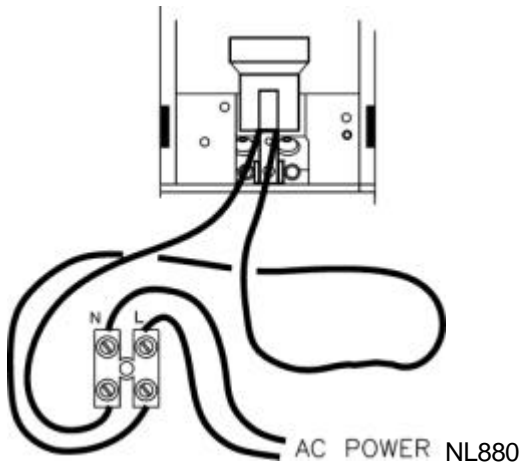

FIGURE 6a
- (4) Connect the BROWN wire (Live wire) to the terminal block "L" mark. Connect the BLUE wire (Neutral wire) to the terminal block "N" mark (FIGURE 6a & 6b). After wiring, replace terminal block and block cover back to the original place.